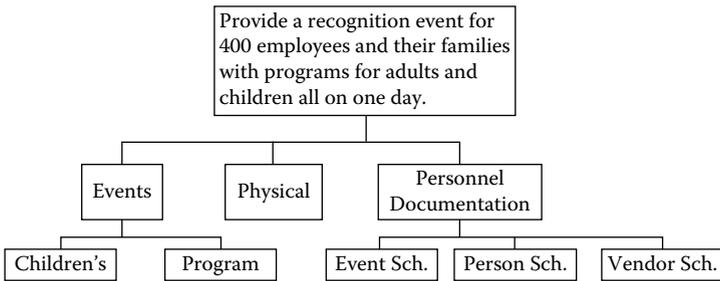
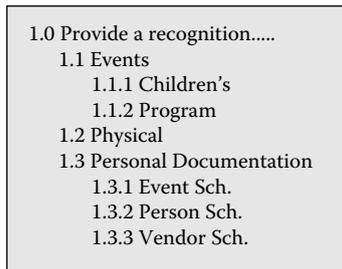

Figure 6.2 The organizational chart.
Figure 6.3 The outline format.
During Step 2, you will be taking the Post-Its® developed during Step 1 and “building” the PBS. There are two formats for a PBS: (1) an organizational chart format and (2) an outline format. The organizational chart format (Figure 6.2) provides the best visual format and one quickly grasped by a new viewer, while the outline format (Figure 6.3) is a textual version of a PBS, which most people learned about in eighth-grade English class.